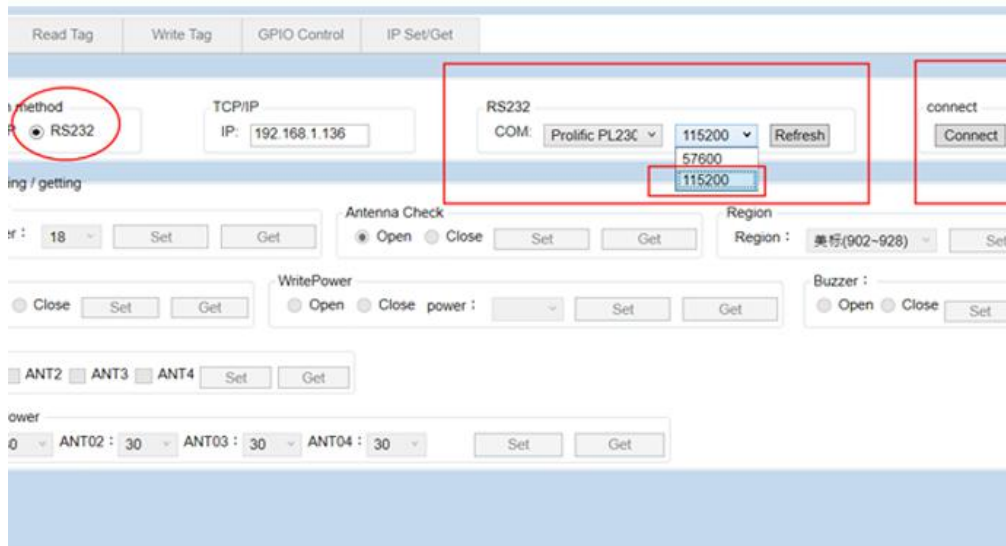

Figure 5
3.2 Open the reader demo "sreaderwpf" and select serial communication, as shown in "Figure 5":